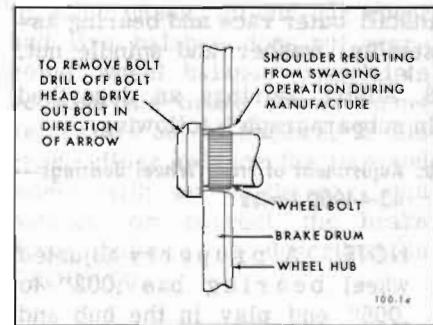

Figure 100-4—Front Wheel Bolt Pressed into Place in Hub & Drum Assembly
forming a shoulder on each bolt by a swaging operation. See Figure 100-4. To replace a wheel bolt, the original bolt should not be pressed out of the hub since the swaged shoulder will enlarge the wheel bolt opening. This will make it impossible to install a new wheel bolt tightly and will require brake drum replacement.
2. Secure hub and drum assembly in a vise and mark center of the bolt head with a center punch. Drill 1/8" pilot hole in head of bolt; re-drill head using a 9/16" bit. Cut off any remaining portion of bolt head using a chisel and then drive out bolt with drift. See Figure 100-4.